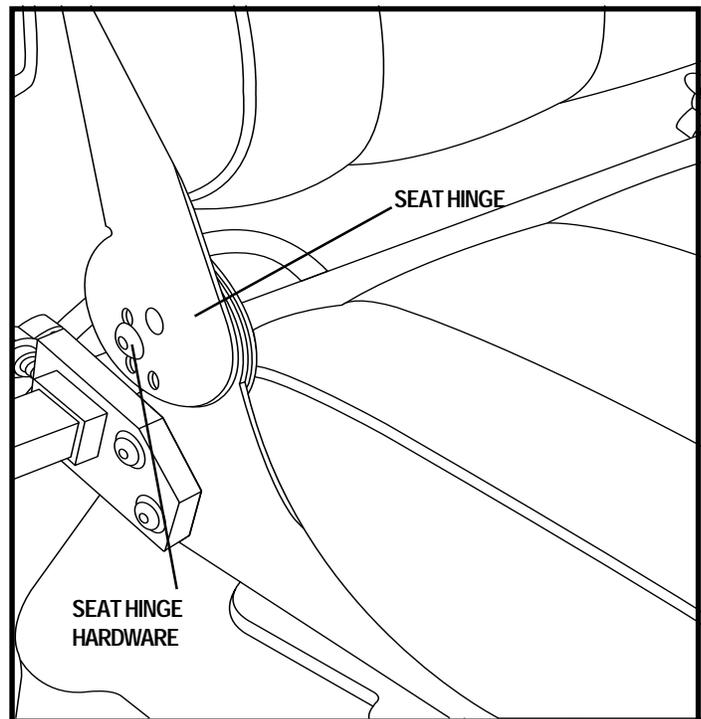

Figure 12. Seatback Angle Adjustment
1. Remove the hardware from each seat hinge. See figure 12.